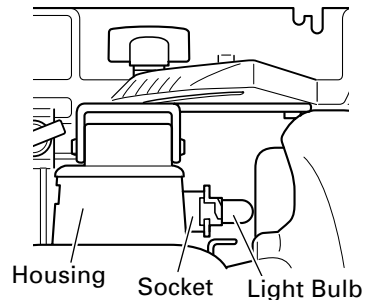

Fig. 24 (Top View)
- (3) Remove the light bulb from the socket. (Fig. 24)